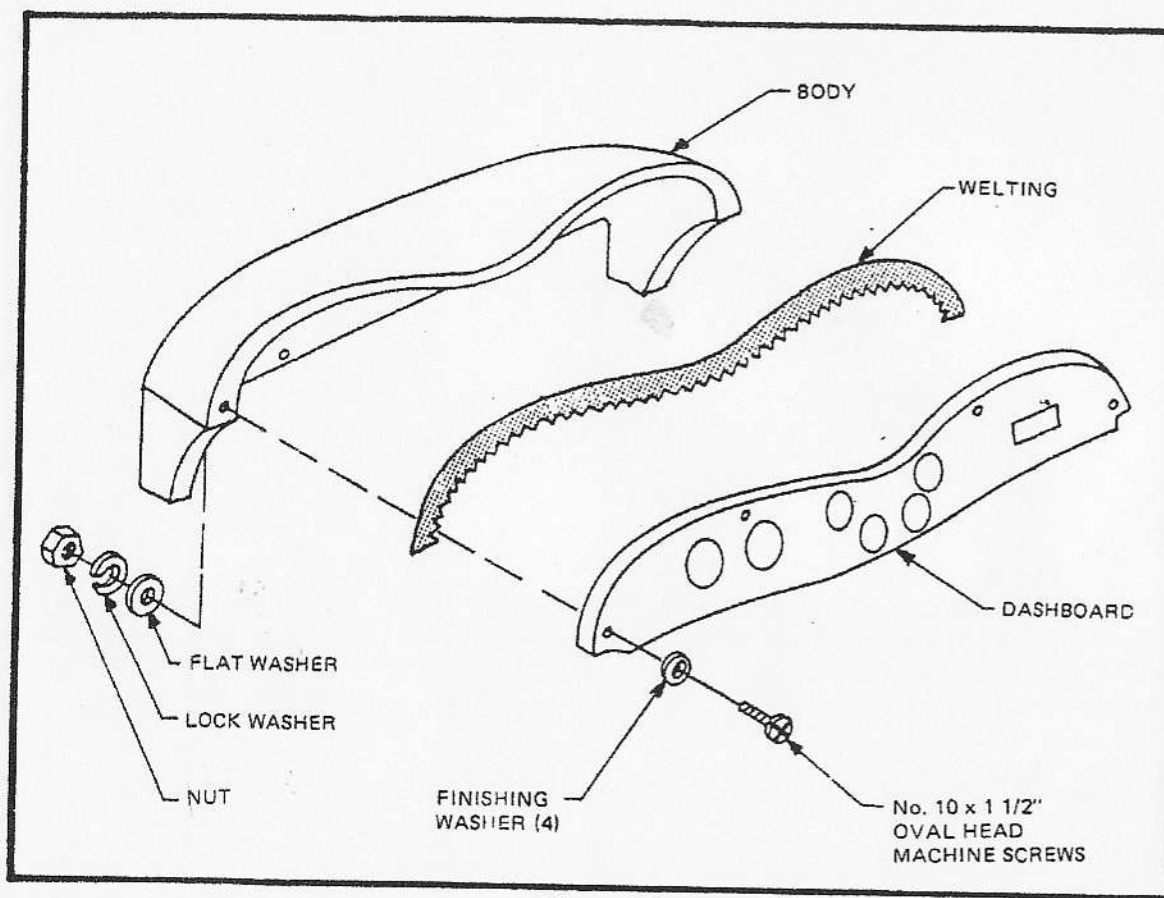

Figure 66
- ☐ Align the dashboard with the body, cutting a recess for the steering column as necessary. Drill 4 holes, 3/16", approximately at the locations shown. (Figure 66) Bolt in place using No. 10 x 1 1/2" oval head machine screws with finishing washer, flat washer, lock washer and nut. Do not tighten all the way. Cut a piece of welting to length and insert between dash and body, notching where necessary to prevent kinks. Tighten bolts.